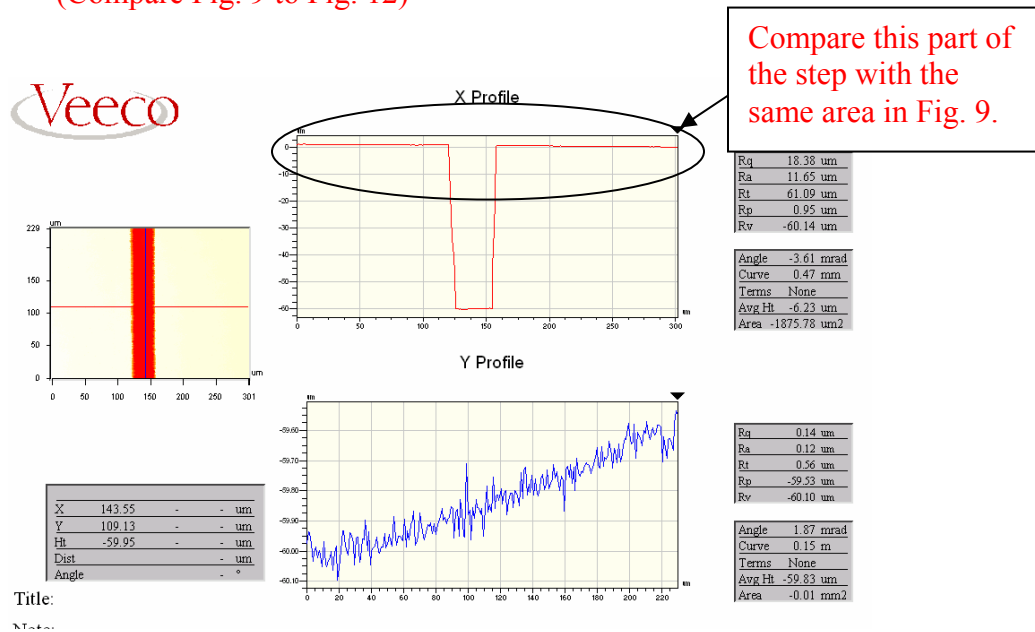

Figure 12 – Step height data after leveling (using terms mask)
- Now when the screen appears again with your step, the two edges should be level allowing for a more accurate measurement of the step height. (Compare Fig. 9 to Fig. 12)